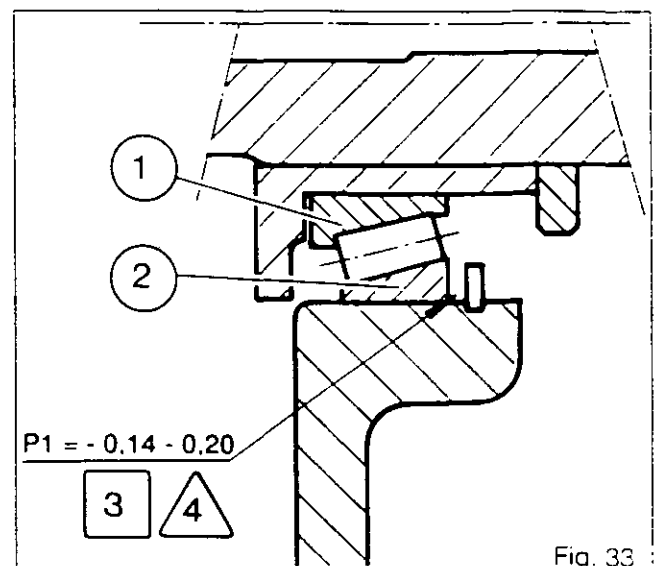

Fig. 33
97. Carry out Procedures 98 to 108 to obtain a preload (Fig.33) of **P1= minus 0.14mm to minus 0.20mm** (0.0055in to 0.008in)